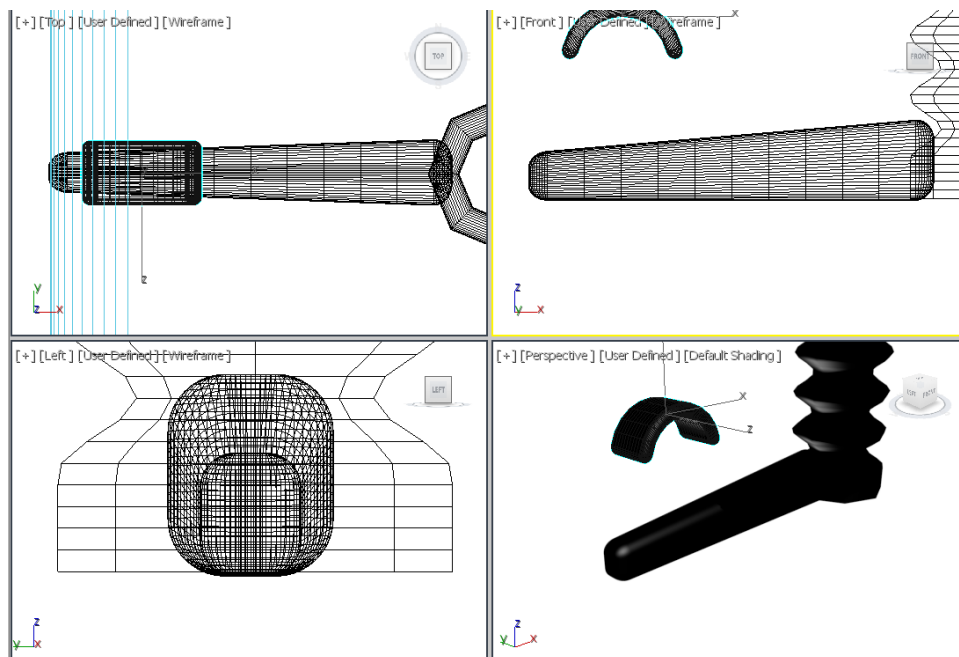

Figure 3-41 The box01 geometry displayed in viewports after applying the **Bend** modifier
8. After applying the **Bend** modifier, box01 is displayed, as shown in Figure 3-41.